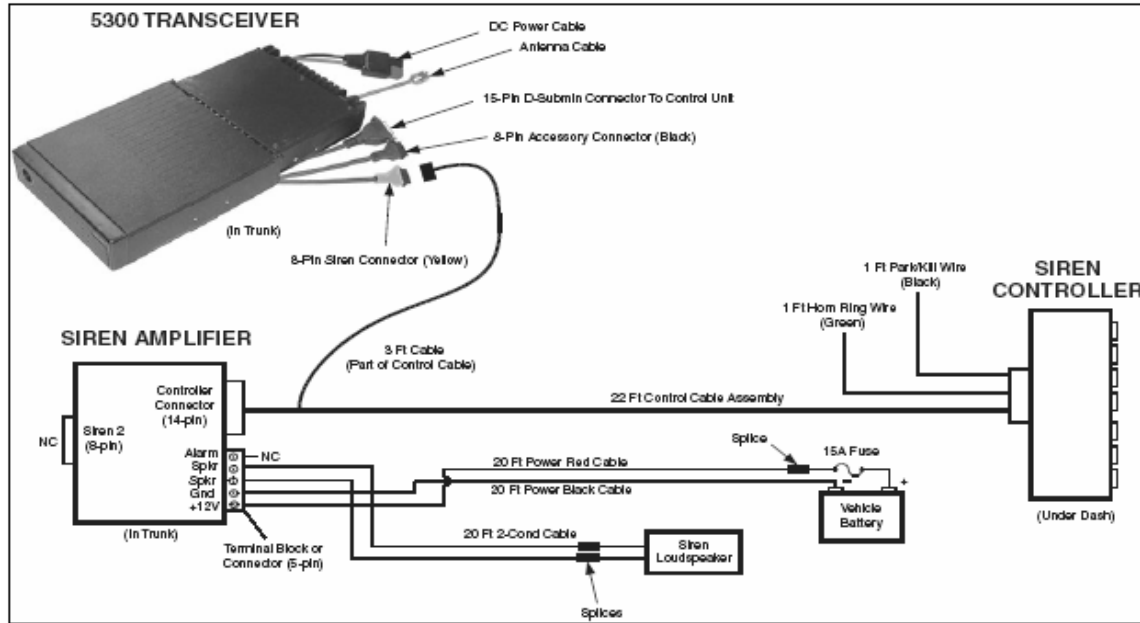

Figure 2-12 Siren Installation Diagram
Refer to Figure 2-12 and proceed as follows:
4. Connect the included 22-ft (6.7m) control cable assembly between the amplifier, transceiver, and controller as shown in Figure 2-12. Be sure to connect it to the yellow (or orange) 8-pin siren pigtail of the transceiver (not the black 8-pin accessory pigtail).